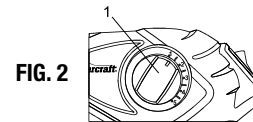

FIG. 2
- To engrave a shallow marking, set the depth control knob (1) to "1" (Fig. 2).
- Set the depth control knob (Fig. 2).